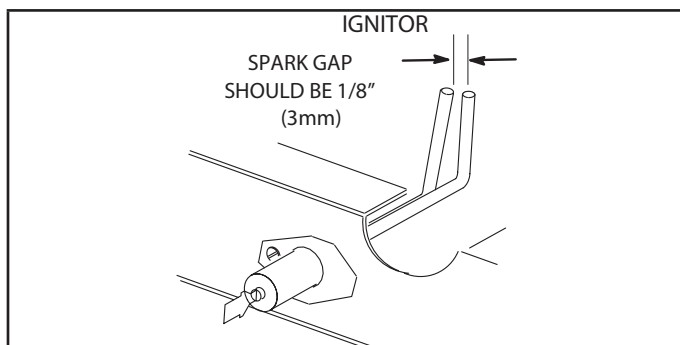

FIGURE 38
- 4 - Locate the ignitor under the left burners. Check ignitor spark gap with appropriately sized twist drills or feeler gauges. See FIGURE 38.
5 - Check the alignment of the ignitor and the sensor as shown in FIGURE 38 and TABLE 17.